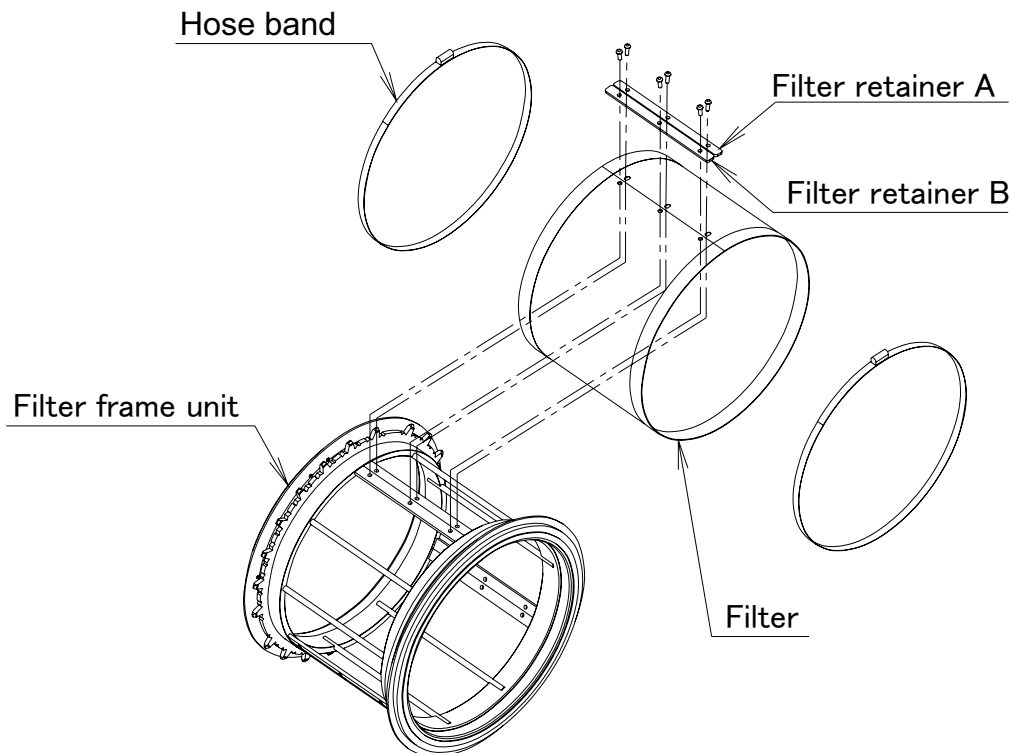

Fig.3
10.1.4.1 Filter change procedure (Fig. 3.)